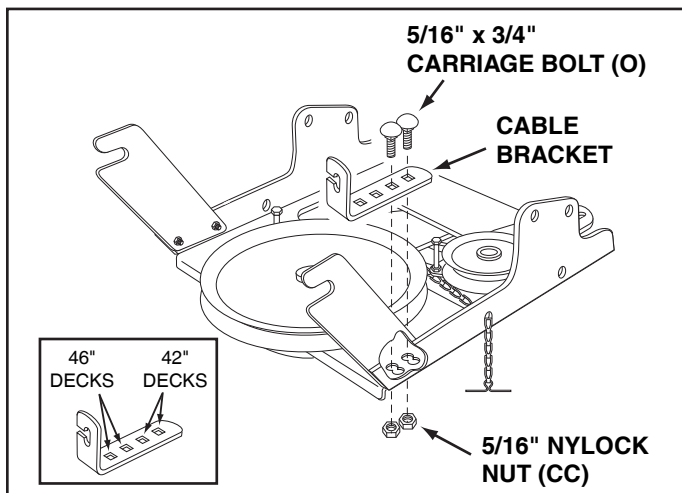

FIGURE 36
STEP 36: (SEE FIGURE 36)
- Assemble the cable bracket to the inner half of the double holes in the bottom of the clutch/idler assembly using two 5/16" x 3/4" carriage bolts (O) and 5/16" nylock nuts (CC). Use the front holes in the cable bracket if your tractor has a 42" mower deck. Use the rear holes if your tractor has a 46" mower deck.